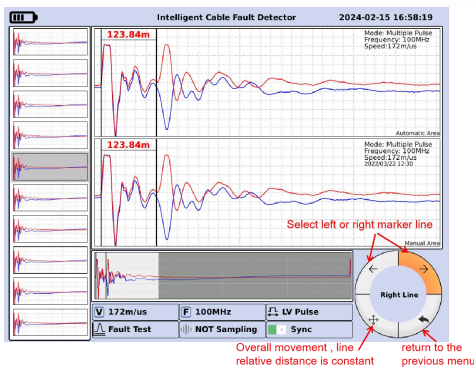
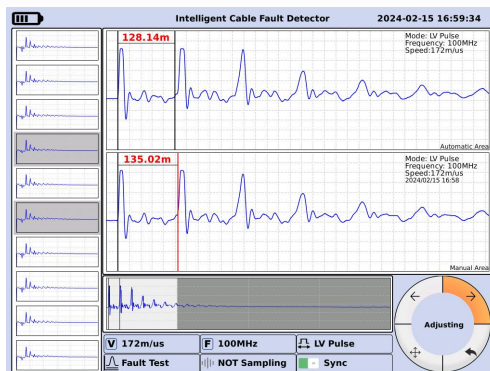

Figure 3.7 Sub-menu for Adjusting Alignment Line
Figure 3.8 Fault Distance Display Interface
As shown in Figure 3.7, rotate the "Photoelectric Rotator ⑪" to switch the focus to . Press the "Photoelectric Rotator ⑪" again, and then rotate the knob left and right with the focus on  to adjust the left clamping line. With the focus still on , rotating the knob left and right will adjust the right clamping line. When adjusting the clamping lines, the step size increases gradually with the number of rotations. If you overshoot the desired clamping position, rotate the knob from right to left, with the step size increasing gradually as the number of rotations increases. The main interface display area shows the current actual clamping distance (fault distance) as shown in Figure 3.8.